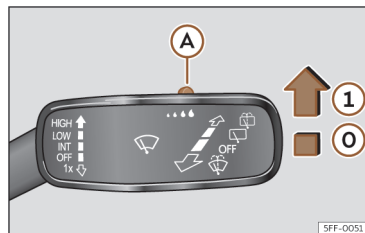

Fig. 82 Windscreen wipers lever: adjust the rain sensor (A).
Push the lever to the desired position >>> **Fig. 82**.
- ① Rain sensor on; automatic wipe if necessary.
When the ignition is switched off and then back on, the rain sensor stays on and starts operating again when the windscreen wipers are in position >>> Fig. 82 ① and the vehicle is travelling at more than 16 km/h (10 mph).